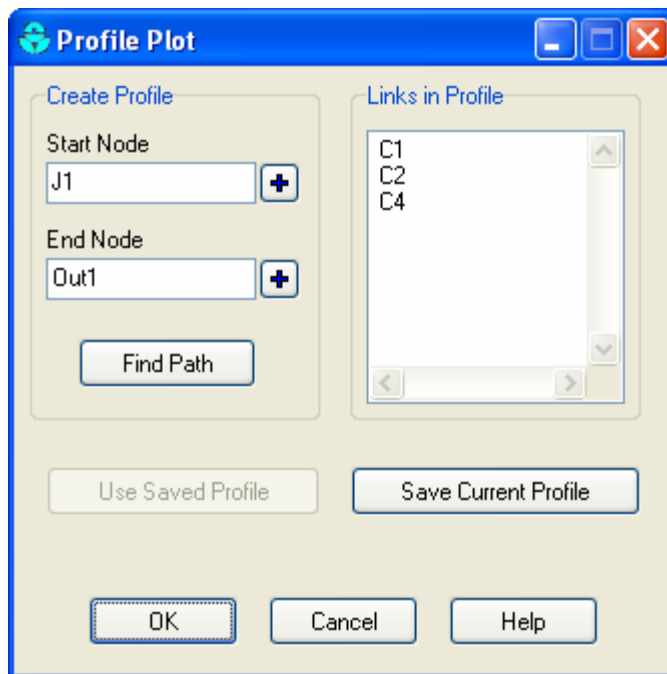

Figure 2-16. Profile Plot dialog.
2. Either enter **J1** in the Start Node field of the Profile Plot dialog that appears (see Figure 2-16) or select it on the map or from the Data Browser and click the  button next to the field.